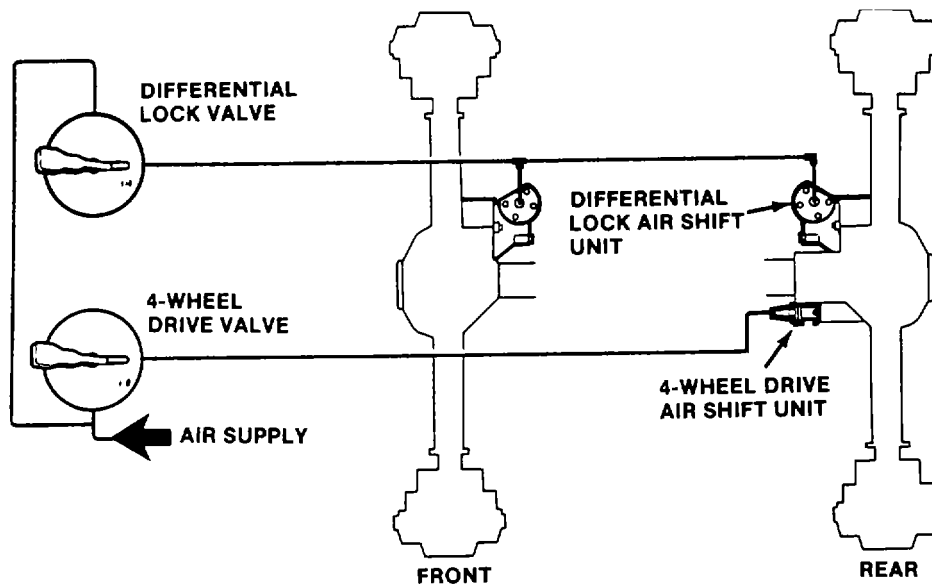

Figure 1-27. Differential Lock And Four Wheel Drive Systems
c. Power Divider and Differential Lock Control. Four-wheel-drive and the differential locks are engaged and disengaged by air-operated shift units, (see fig. 1-27). Air flow to these units is controlled via two selector valves in the cab. The four wheel drive shift unit should be engaged only when the vehicle is stopped or driven at very low speed. The differential locks can be actuated at any time except when one or more wheels are spinning.